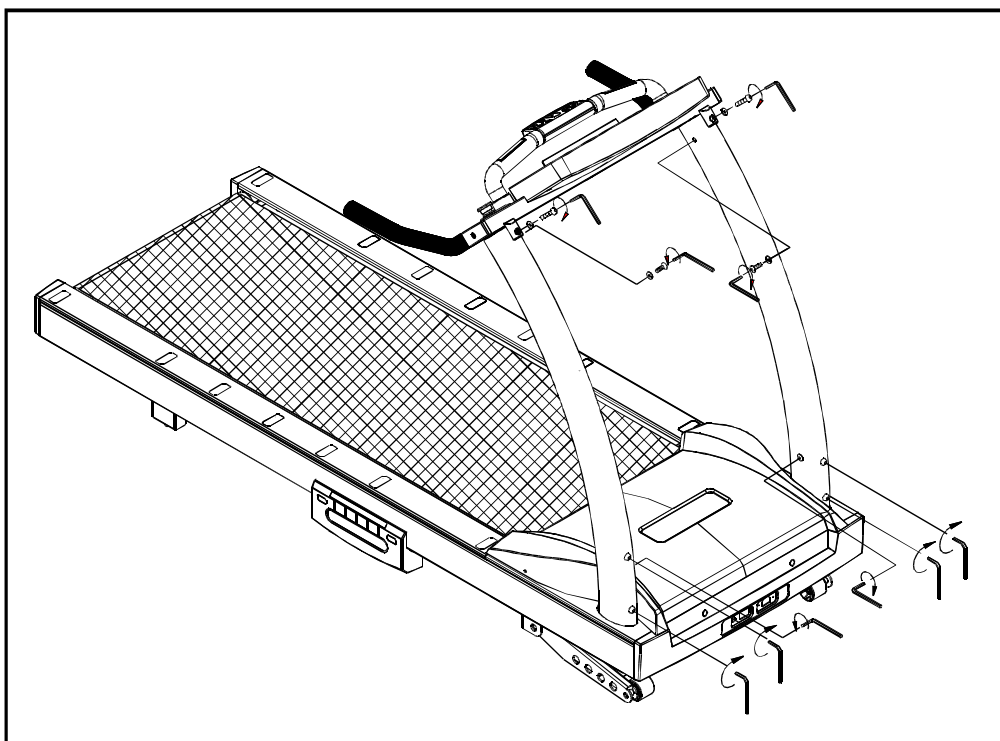

Fig.6
6. Attach the upper fasteners of the upright post, do NOT tighten securely. Tighten fully the lower fasteners, then the upper fasteners. (see Fig.6)